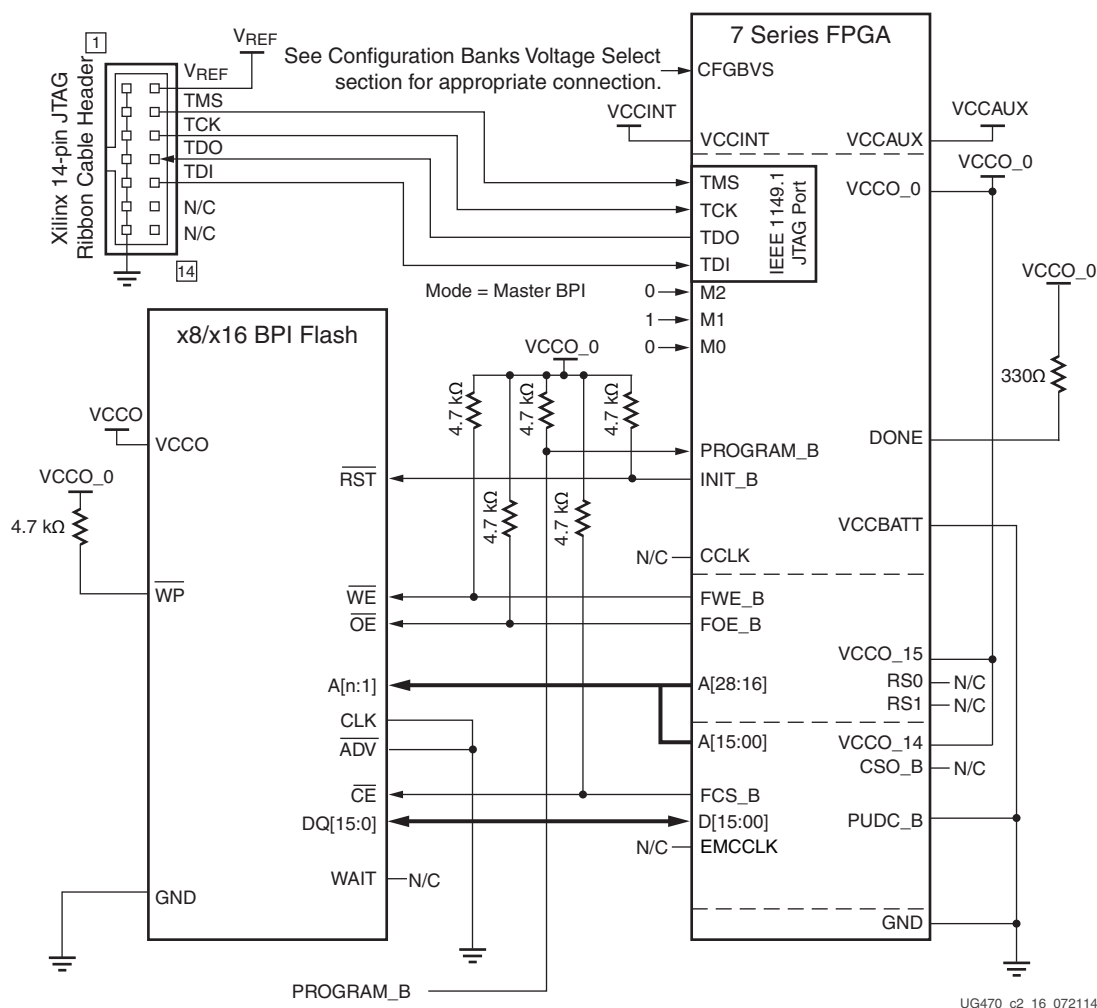

Figure 2-17: 7 Series FPGA Master BPI Configuration Interface - Asynchronous Read Example
By default, 7 series FPGAs use the asynchronous mode of the BPI flash to read bitstream data as shown in Figure 2-17, page 56. The FPGA drives the address bus from a given start address, and the BPI flash sends back the bitstream data. The default start address is address 0. The start address can be explicitly set in a MultiBoot reconfiguration procedure as outlined in Chapter 7, Reconfiguration and MultiBoot. In asynchronous read mode, supported bus widths of x8 and x16 are auto-detected as described in Bus Width Auto Detection, page 74.
Notes relevant to Figure 2-17:
4. Figure 2-17 shows the x16 BPI interface. For x8 BPI interfaces, only D[07:00] are used. See Bus Width Auto Detection, page 74.
7. The RS[1:0] pins are not connected as shown in Figure 2-17. These output pins are optional and can be used for MultiBoot configuration. See Chapter 7, Reconfiguration and MultiBoot.
11. The FPGA mode (M[2:0]) pins are shown set to Master BPI mode (010). The implementation of a board-level option that enables the user to change the FPGA mode pins to JTAG mode (101) is recommended to enable JTAG-based debug capability for the FPGA during design. This is not required, but the JTAG mode setting ensures that there is no interference from the Master BPI configuration during debug.